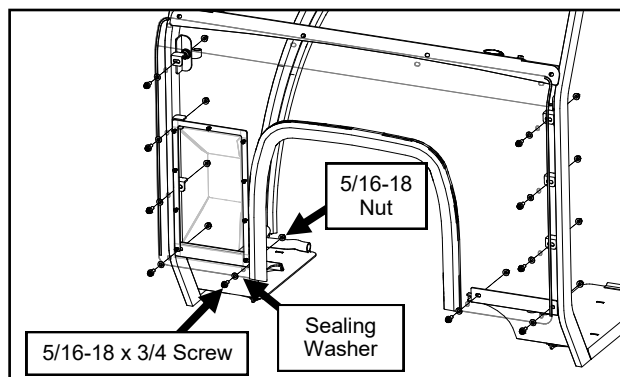

Fig. 10.1 (Install Clear Plastic Cowl)
- 10.1 With assistance, slide the clear plastic cowl down over the vehicle, flexing it to go around behind the loader arm bracket. Loosely secure the lower (10) slots with fasteners. See Figure 10.1. The vinyl filler will sandwich between the plastic cowl and the floorboard at the bottom.